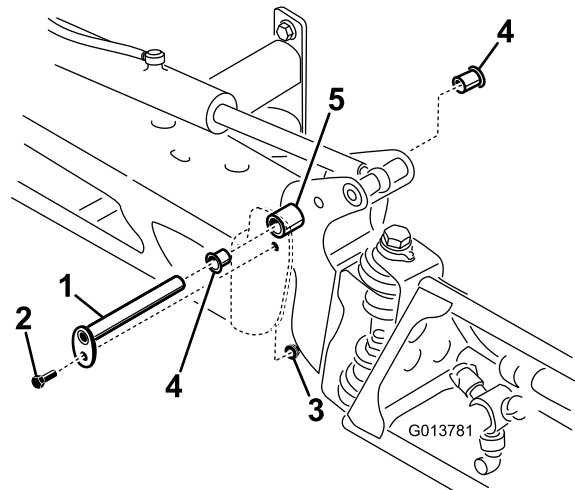

Figure 94
- With the weight of the boom supported, remove the bolt and nut securing the pivot pin to the boom assembly (Figure 94).
- Remove the pivot pin (Figure 94).
- Remove and inspect the nylon bushings from the front and back sides of the pivot bracket (Figure 94).
- Install the boom and pivot-bracket assembly into the center frame, aligning the openings (Figure 94).